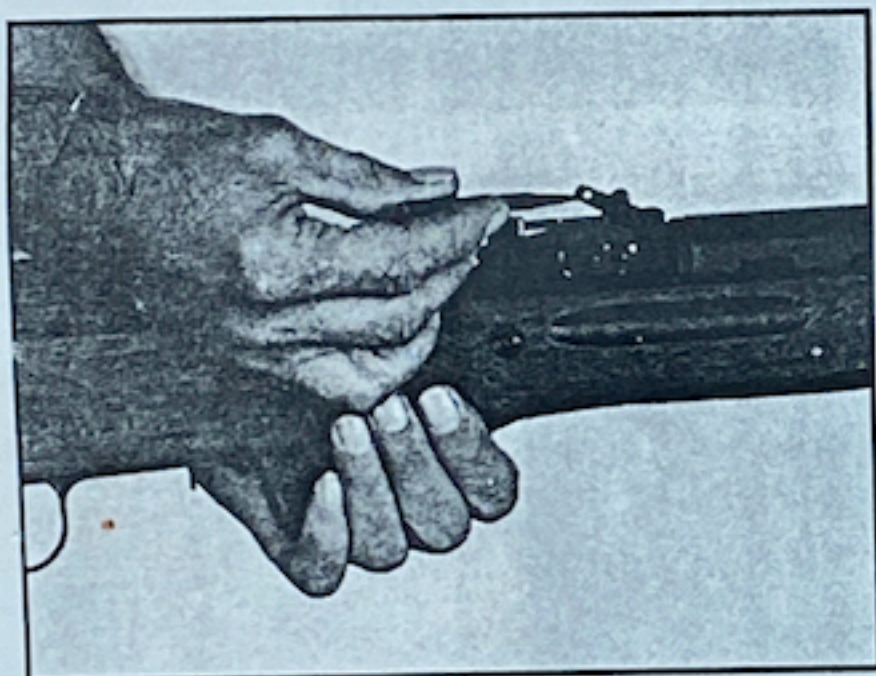

Figure 13
5. To remove Gas Tube/Handguard Assembly: use a pin punch to pry the lever located on right of rear sight base into the position where the camming surface located at the front is completely vertical (Figure 13). **CAUTION:** Further movement will allow operating rod and spring to escape.